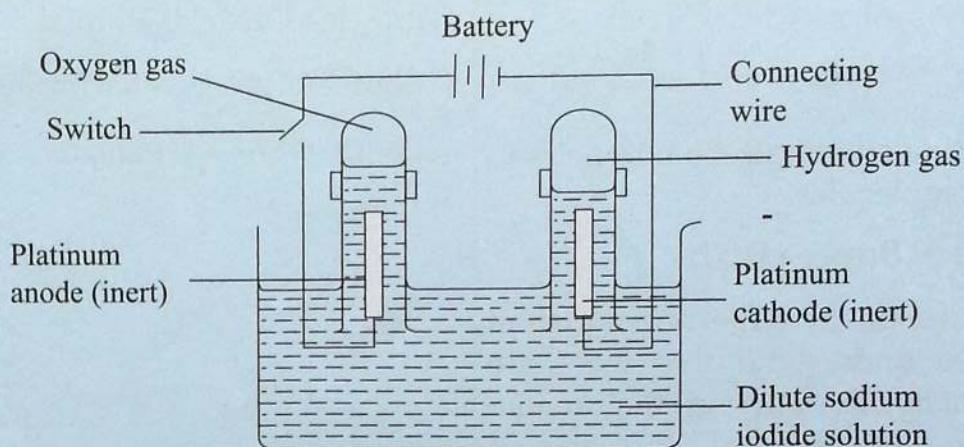
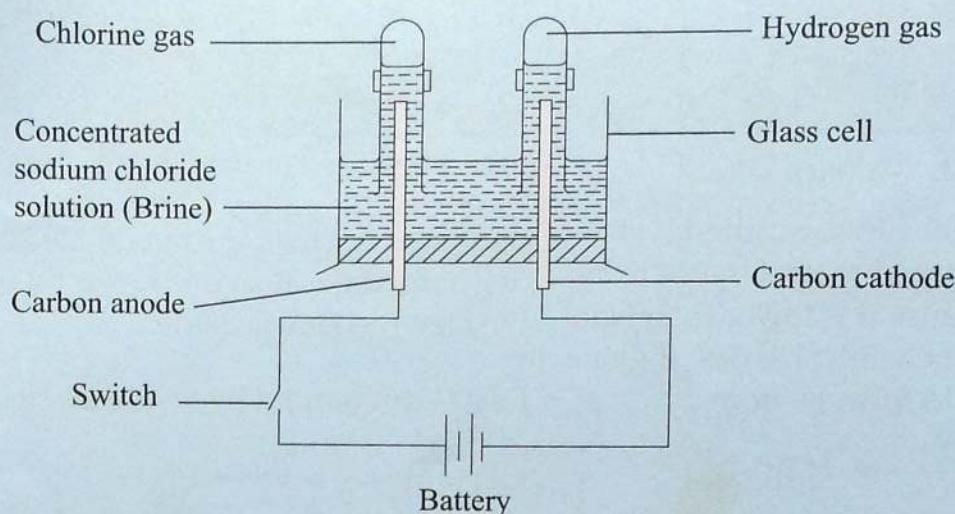

Fig. 4.7: Electrolysis of dilute sodium iodide solution
Fig. 4.8: Set-up for electrolysis of brine
1. Set up the apparatus as shown in Fig 4.7 below.
- The apparatus is the same as in Experiment 4.4 and the set up is as in Fig. 4.7 or glass cell fitted with inert electrodes such as platinum or carbon as in Fig 4.8.
- Set up the apparatus as shown in Fig. 4.8 below.